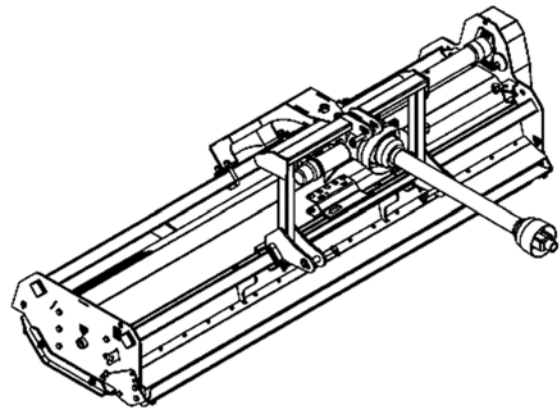

Figure 1.9
- 1.5.1.18 The machine is now ready for front mounting, see Figure 1.9.